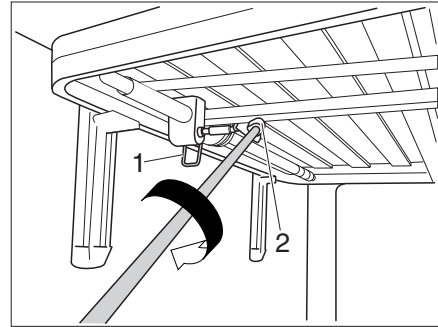

Fig. 136 Height adjustment
- Loosen the locking lever (Fig. 136,1). The bed can now be adjusted.
- Slide the crank into the magnetic square recess (Fig. 136,2). The height of the bed can now be changed.
- Pull the crank out of the square recess (Fig. 136,2) and keep it in the holder.